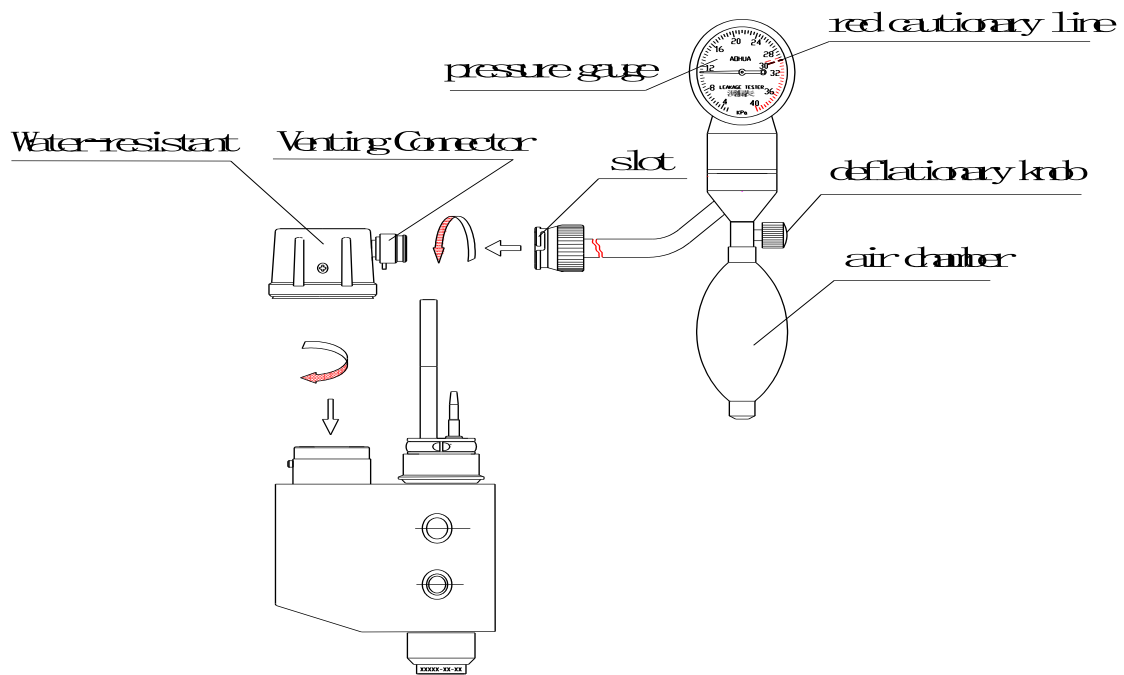

Figure 3.5
- △ Connect the leakage tester to the endoscope according to the method shown in Figure 3.5.